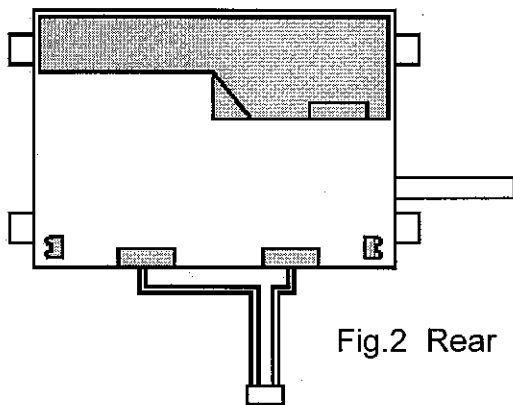

Fig.2 Rear view of a TFT-LCD Module
- (21) Don't push the hatched area as shown in Fig.2.